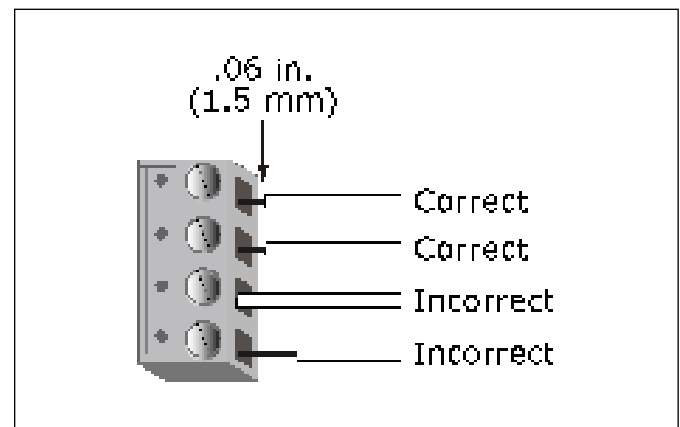

Figure 12
- Allow no more than .06 inch (1.5mm) of bare communication wire contacts to avoid touching the cable's foil shield wire, or a metal surface other than the terminal block. The device may not communicate correctly otherwise (See Figure 12).